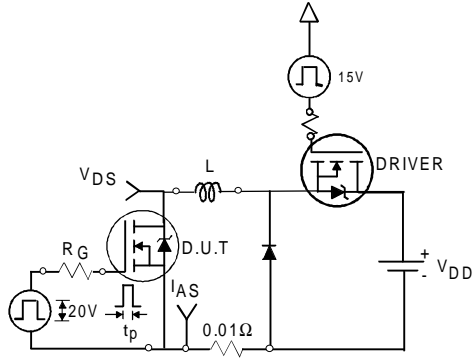

Fig 12a. Unclamped Inductive Test Circuit
- ④ Pulse width $\leq 400\mu s$; duty cycle $\leq 2\%$.
- ⑤ $C_{oss \text{ eff.}}$ is a fixed capacitance that gives the same charging time as C_{oss} while V_{DS} is rising from 0 to 80% V_{DSS} .
- ⑥ Calculated continuous current based on maximum allowable junction temperature. Package limitation current is 75A.
- ⑦ Limited by T_{Jmax} , see Fig.12a, 12b, 15, 16 for typical repetitive avalanche performance.
3. Equation below based on circuit and waveforms shown in Figures 12a, 12b.